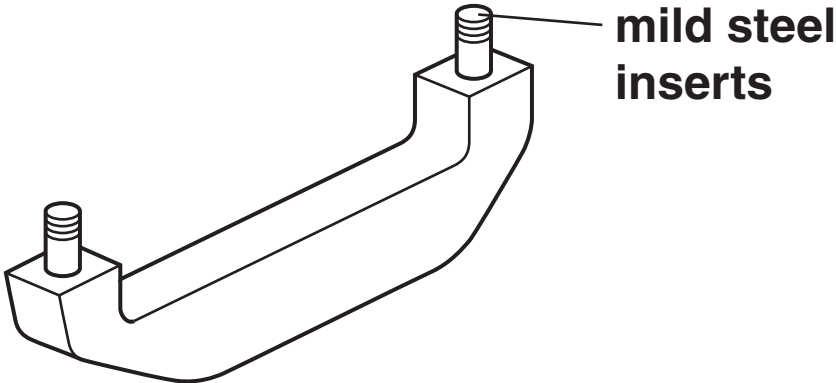

Fig. 7
Fig. 7 shows an injection moulded cupboard handle.
(e) (i) State a SUITABLE SPECIFIC MATERIAL for the injection moulded handle shown in Fig. 7 and give TWO properties or characteristics that make the material suitable for this use.
- (ii) Draw a flowchart to show the key stages of manufacture of the cupboard handle shown in Fig. 7, from raw material to final assembly. Include details of quality control checks.**